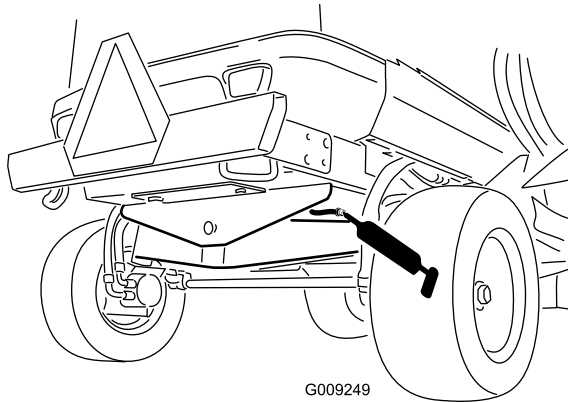

Figure 48
- Rear axle pivot bushing (1) (Figure 48)